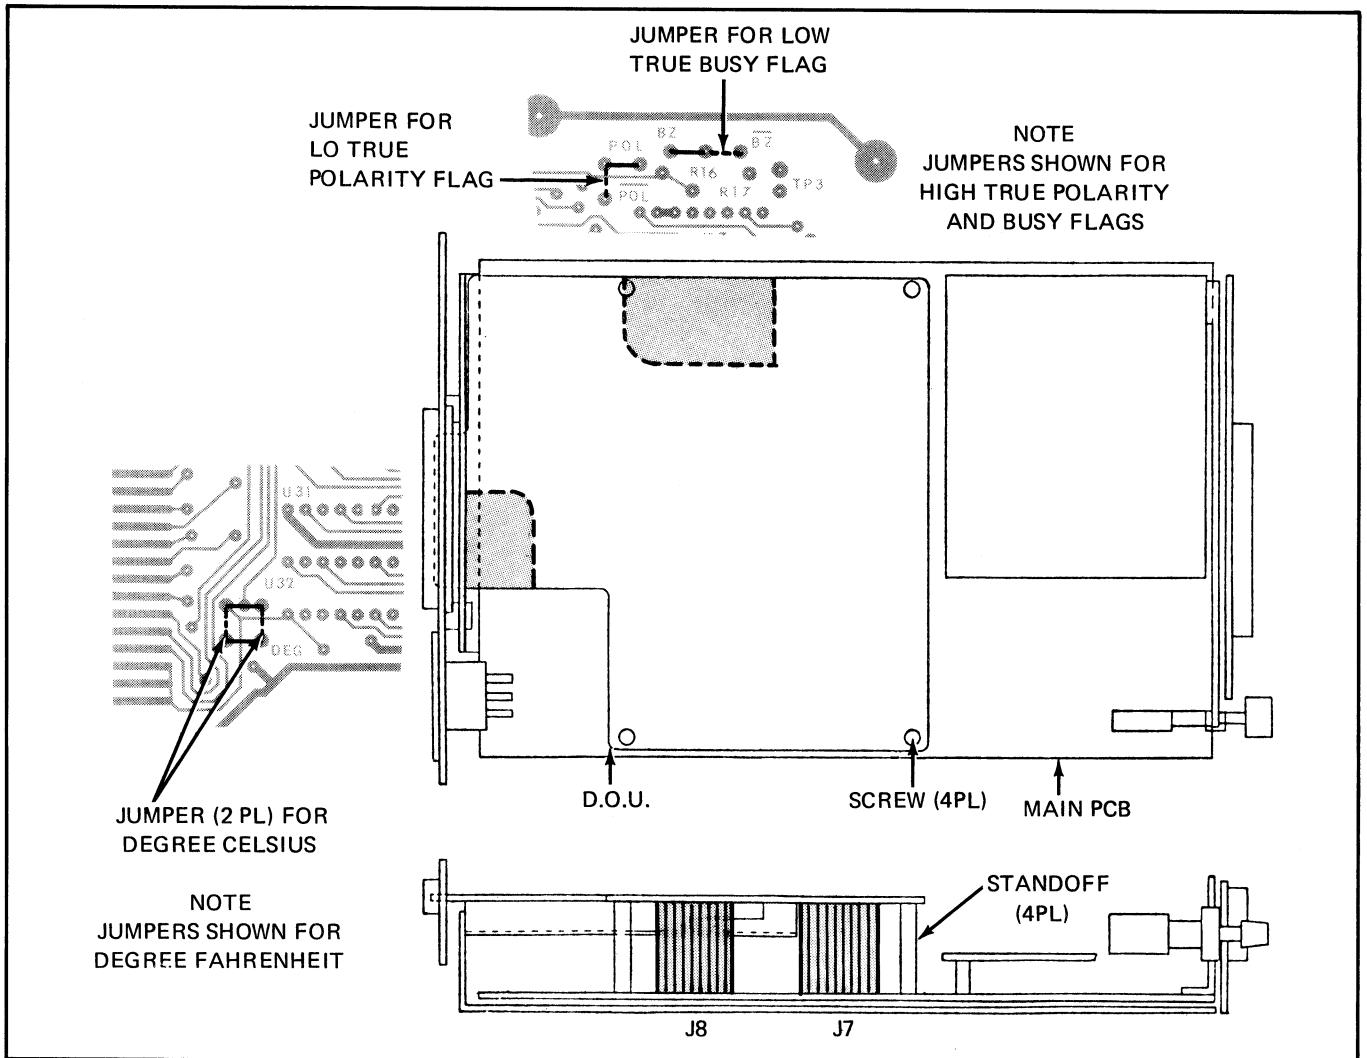

Figure 6-9. DOU INSTALLATION ILLUSTRATION
6-69, Use the following procedure to install the Digital Output Unit in the 2100A. Refer to Figure 6-9 for item locations:
- c. Position the DOU on the Main PCB as shown in Figure 6-9.
- e. Position the AOU on the main pcb as shown in Figure 6-9.
- i. Connect the five color-coded leads from the AOU rear panel to the AOU pcb as indicated in Figure 6-9.
- Adjust R24 (Internal Offset) on the AOU for $0 \pm 50 \mu\text{V}$ on the DVM. See Figure 6-9. The DVM should be on the lowest dc voltage range with filter out.